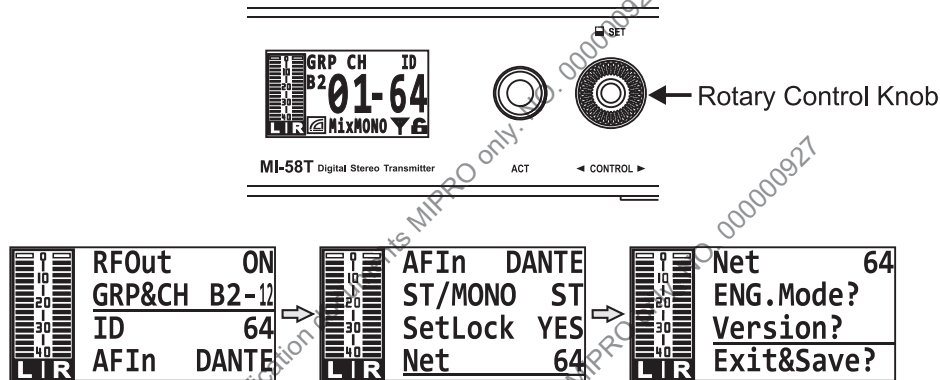

Fig. 8
1. Rotary Control Knob: Menu Settings, as Fig. 8: